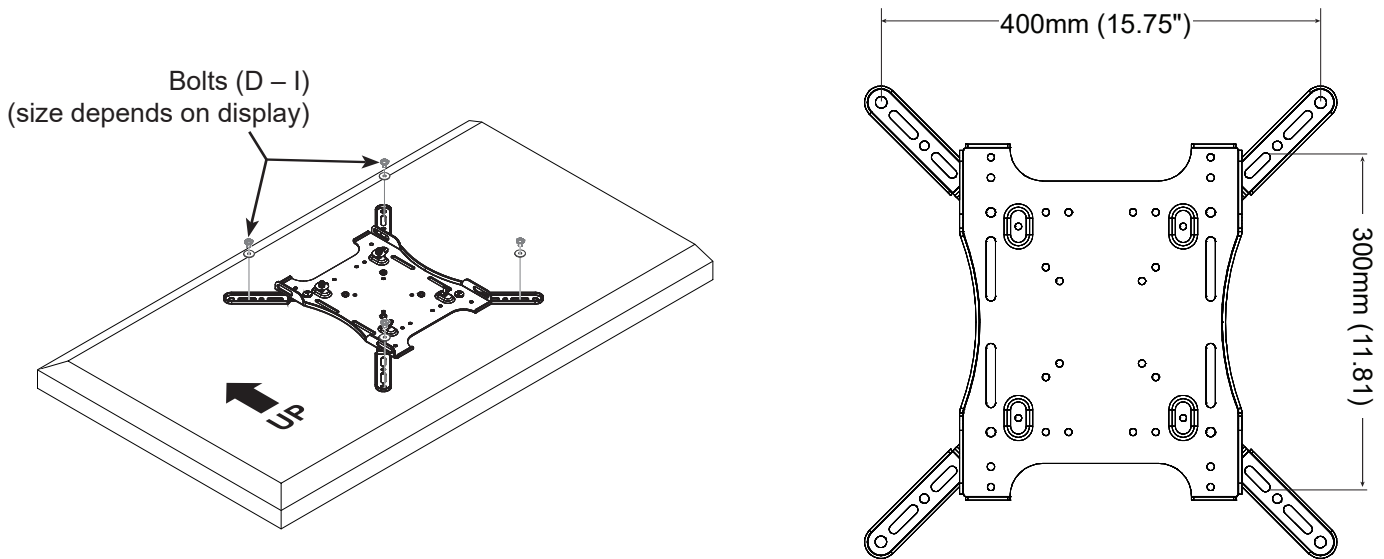

Figure 4
- Attach display bracket to TV VESA holes using 4 bolts (D, E, F, G, H, or I) and washers (M or N); spacers (J, K, or L) may be required depending on display design. (see Figure 4).